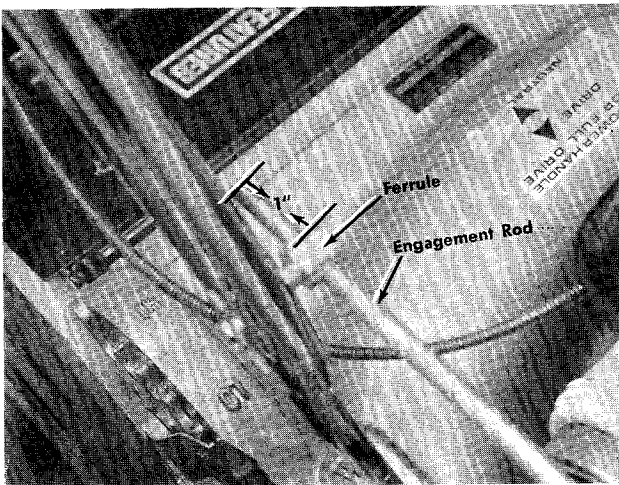

FIGURE 17. CUTTING HEIGHT ADJUSTMENT
It may be necessary to adjust the engagement rod when changing the cutting height. Engagement rod should have approximately one (1) inch of thread showing from the ferrule to the end of the rod. See figure 17.